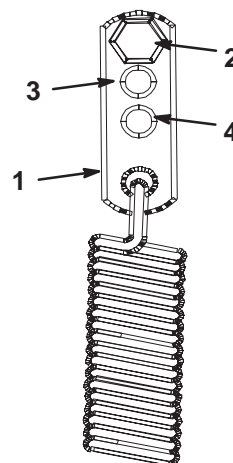

Figure 55
3. For a heavier drive setting, relocate the spring anchor links to either the **medium** or **heavy duty** positions (Fig. 55). The spring anchor links are attached to the upper rear corner of the hydro drive shields on the left and right sides of the machine.